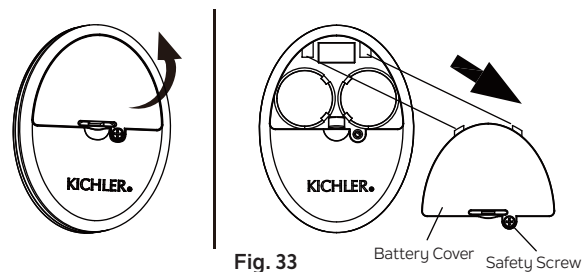

Fig. 33
Step 1. To remove or replace the batteries, loosen the safety screw and remove the battery cover from the back of the transmitter to access the battery compartment. (Fig. 33)
Step 1. Loosen the safety screw and remove the battery cover from the back of the transmitter to access the "LEARN" button. (Fig. 33)
Step 1. Loosen the safety screw and remove the battery cover from the back of the transmitter to access the "**LEARN**" button. **(Fig. 33)**